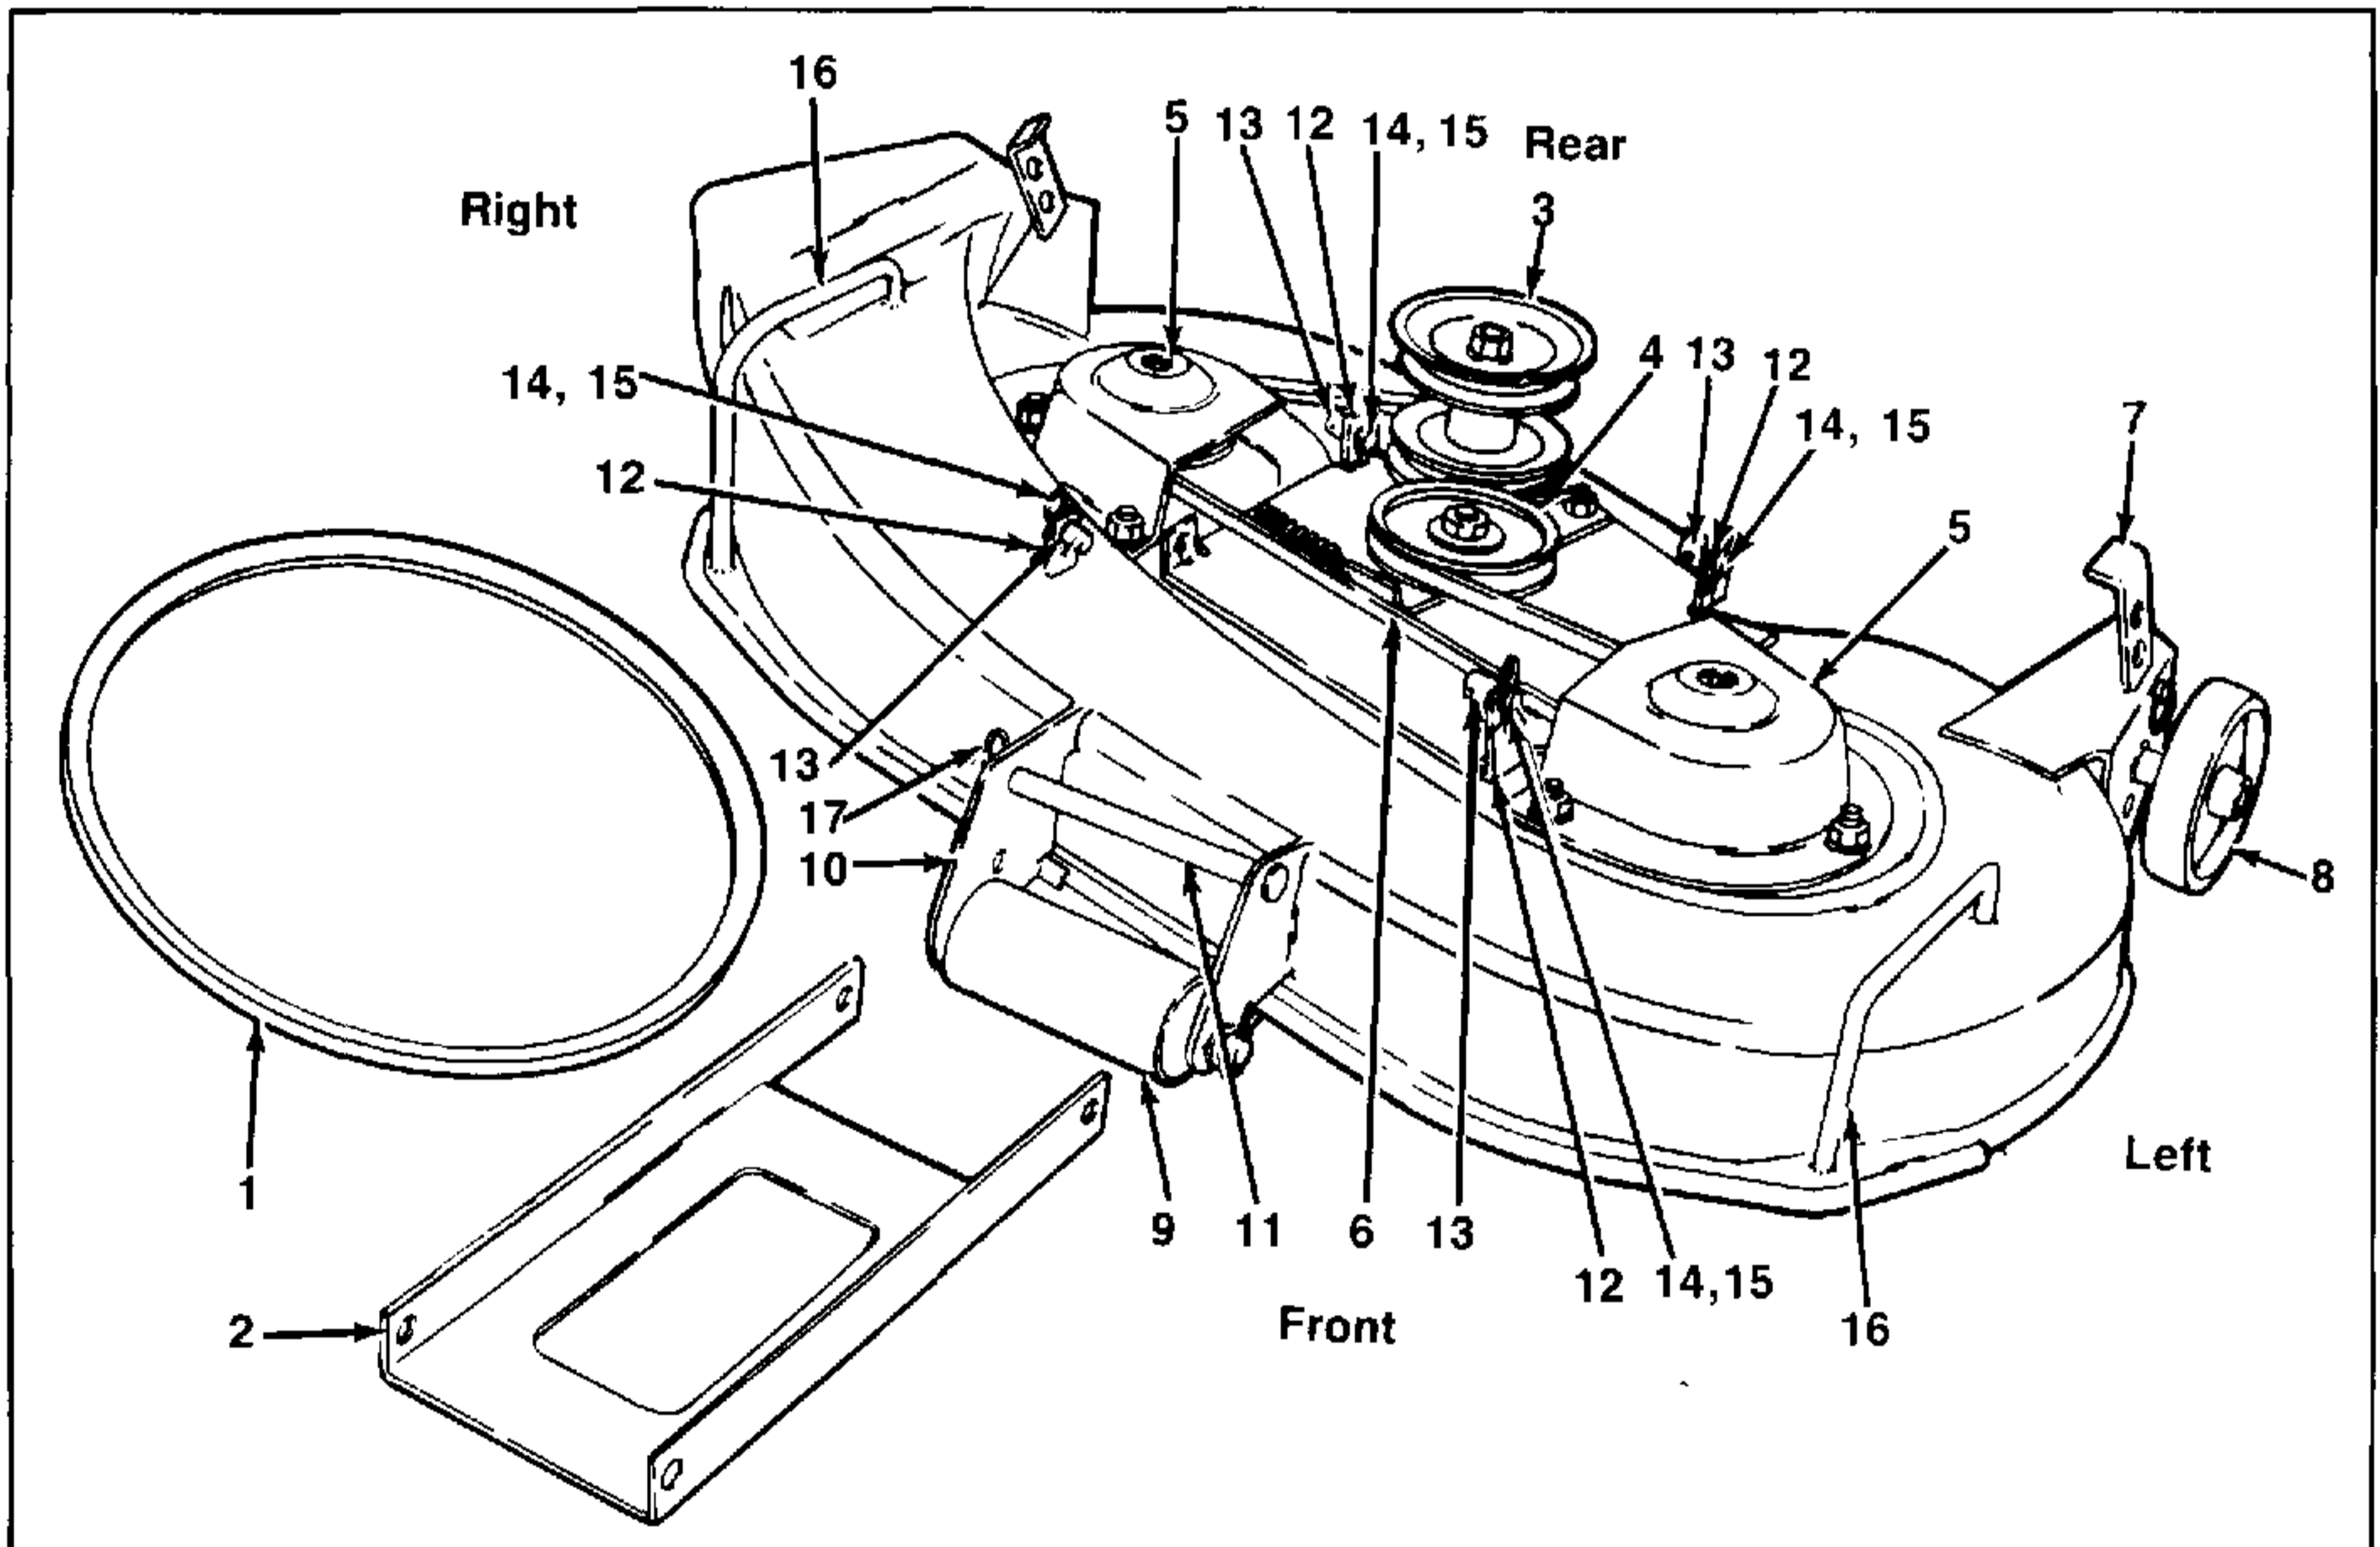

FIGURE 1.
Remove deck components from the container. Refer to figure 1 to ensure that all parts are present and to acquaint yourself with parts' nomenclature.
Prior to beginning installation of the deck, refer to figure 1 and complete the following preparations:
4. Remove the deck hanger rod flat washer and hairpin cotter. Refer to figure 1.